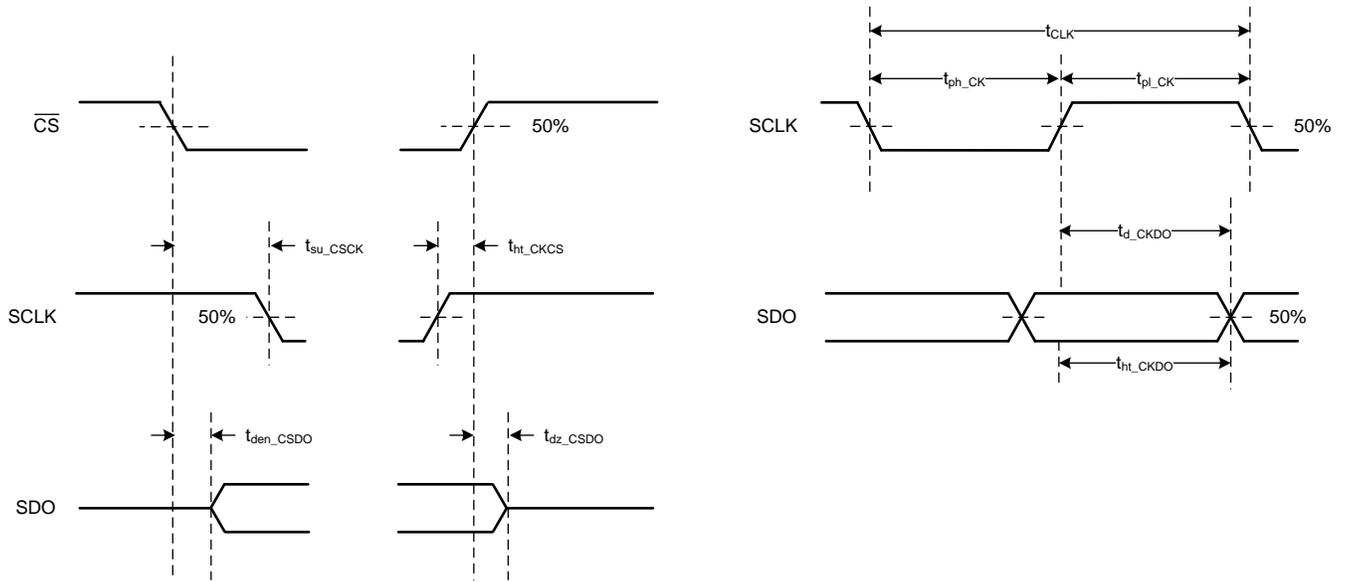
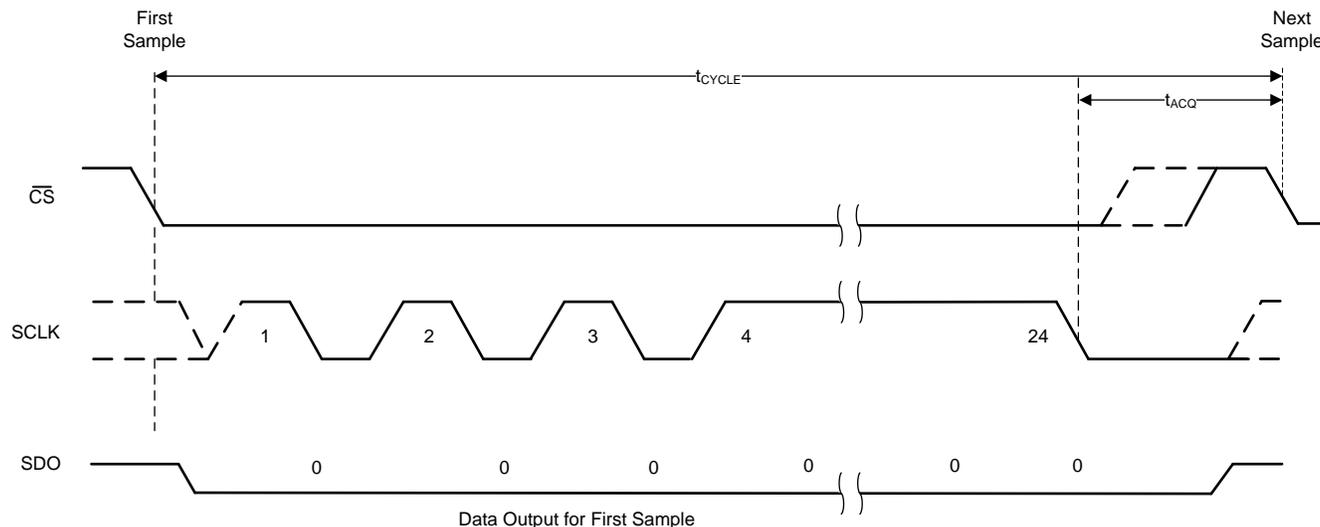

Figure 2. Timing Specifications
Figure 41. Timing for Offset Calibration on Power-Up
On power-up, the host must provide 24 SCLKs in the first serial transfer to enter the OFFCAL state. The device provides 0's on SDO during offset calibration. For acquisition of the next sample, a minimum time of t_{ACQ} must be provided. If the host controller enters the OFFCAL state, but pulls the CS pin high before providing 24 SCLKs, then the offset calibration process is aborted and the device enters the ACQ state. Figure 41 and Table 2 provide the timing for offset calibration on power-up.
(1) In addition to the timing specifications of Figure 41 and Table 2, the timing specifications described in Figure 2 and the Timing Requirements table are also applicable for offset calibration on power-up.